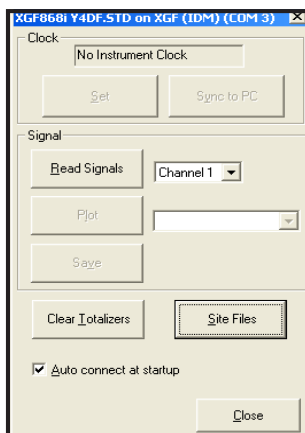

Figure 27: Properties Window
3. The *Properties* window appears similar to Figure 27. To clear the XGF868i totalizers, click on the [Clear Totalizers] button. The XGF868i totalizers are reset to 0.